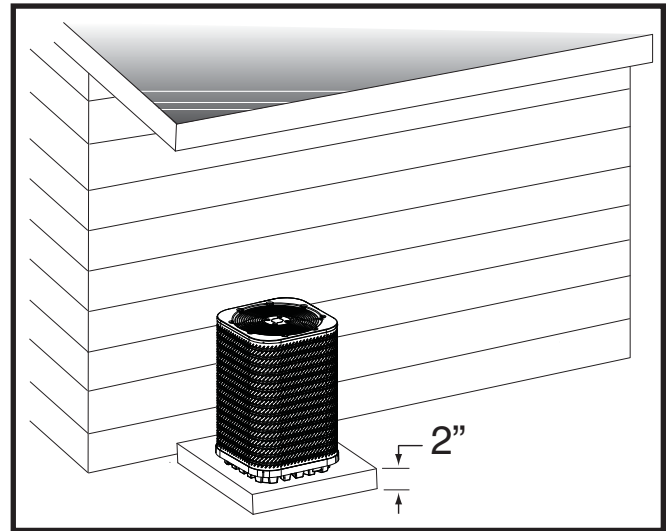

Figure 3. Ground Level Installation
- A suitable mounting pad (Figure 3) must be provided and separate from the building foundation. The pad must be level and strong enough to support the weight of the unit. The slab height must be a minimum of 2" (5 cm) above grade and with adequate drainage.